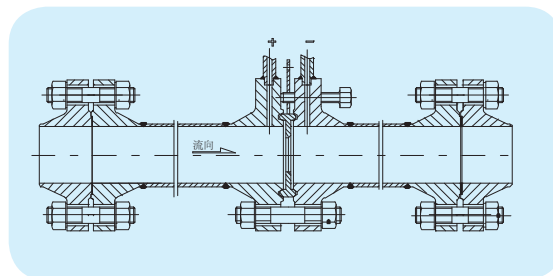

图 8 法兰取压标准孔板 (RJ)
figure 8 flange tappings standard orifice plate (RJ)